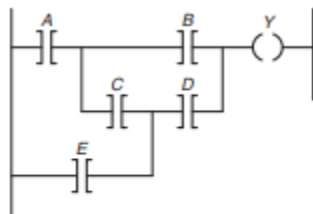

Figure 5-52 Program for Problem 4.
83. Redraw the program shown in Figure 5-52 corrected to solve the problem of some logic ignored.